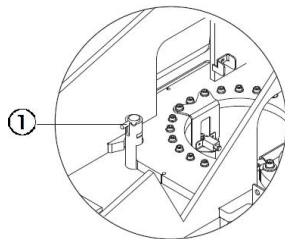

Figure 10-1 Turret rotary lock pin
- 6) Ensure the turret has been fixed using the turret rotary lock prior to transport, as shown in Figure 10-1. Ensure turret is unlocked during operation.
- 1) When transporting the machine every time, it is necessary to lock the turret using the turntable rotary lock pin, as shown in Figure 10-1.